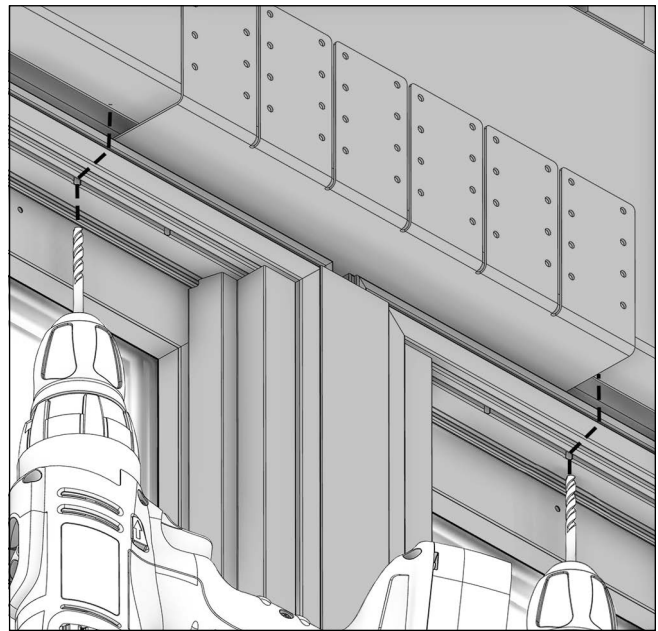

Figure 23 Casement
4. **Casement** product hole locations will align with the through jamb holes in the interior kerf. All holes regardless of unit type will align with the existing through jamb holes. Drill the marked locations, drill through the frame with a 3/16" drill bit. Once all holes are drilled, fasten the frame to the RO with the provided #8 x 3" screws using a T20 star bit. Additional shimming may be required. DO NOT OVERTIGHTEN. See Figure 23